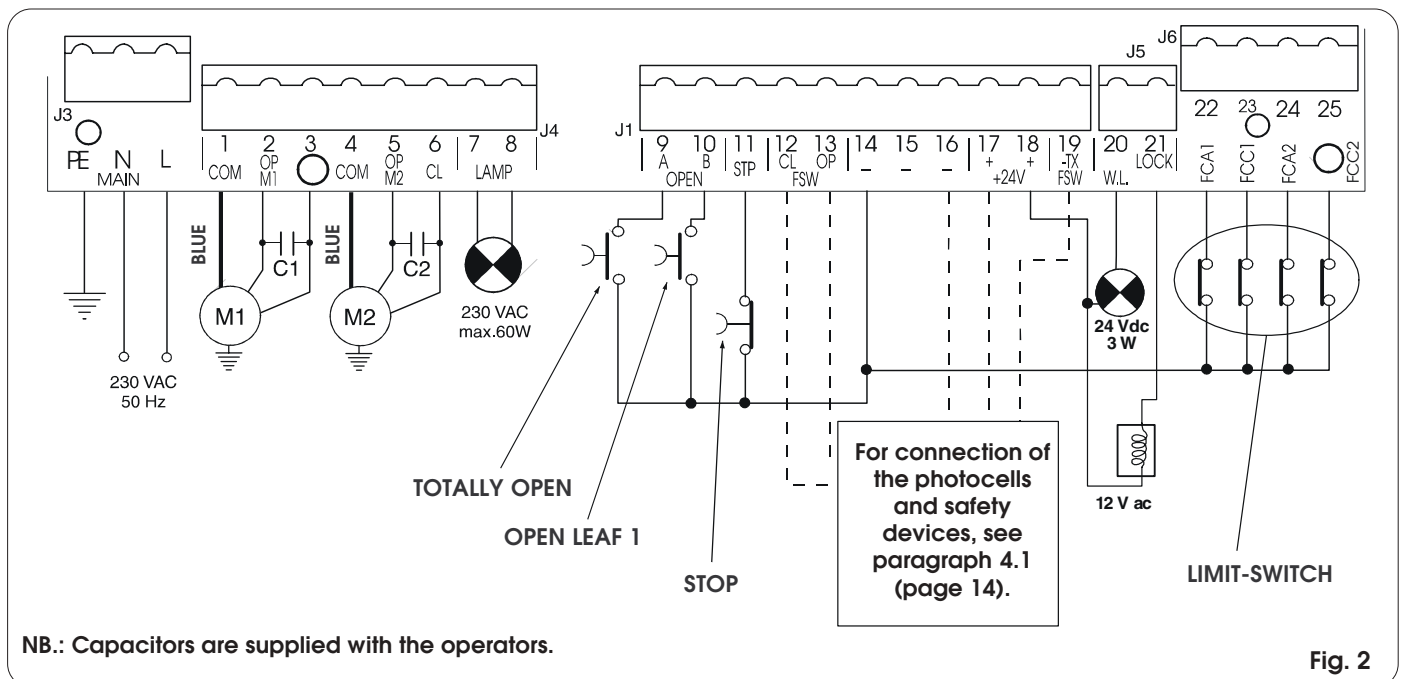

Fig. 2
- Connect the earth cable to the appropriate terminal on the J3 connector of the equipment (see fig.2).
**4.2. TERMINAL BOARD J3 - POWER SUPPLY (FIG. 2)**
**4.3. TERMINAL BOARD J4 - MOTORS AND FLASHING LAMP (FIG. 2)**
**4.4. TERMINAL BOARD J1 - ACCESSORIES (FIG. 2)**
**4.5. TERMINAL BOARD J5 - INDICATOR-LIGHT AND ELECTRIC LOCK (FIG.2)**
**4.7. TERMINAL BOARD J6 - LIMIT-SWITCHES AND/OR GATECODER (FIG.2)**